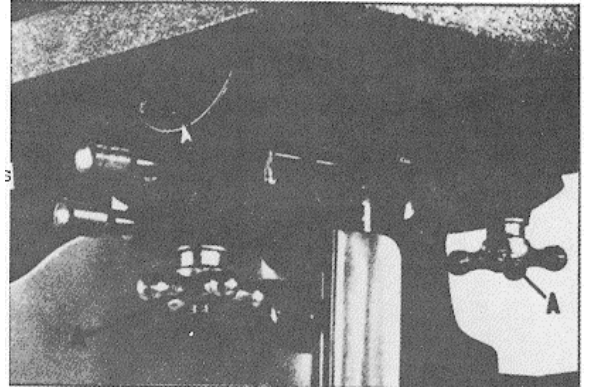

Fig. 11
The table on this band saw can be tilted 45 degree to the right and 10 degrees to the left. To tilt the table, loosen the two star wheels (A) Fig. 11, tilt the table to the desired angle and tighten the two star wheels (A).